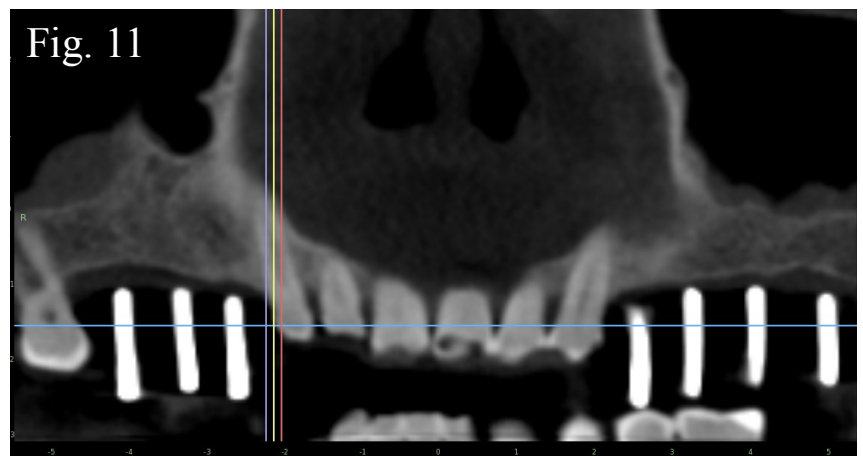

Fig. 11
10. Take an X-Ray or CBCT with the baseplate (the CT Guide) in the patient's mouth to start planning the implant treatment (Fig.11).